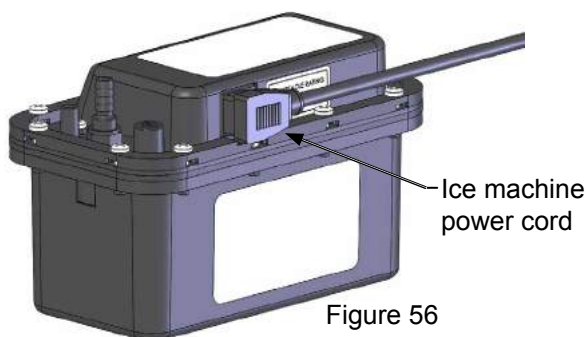

Figure 56
7. Disconnect the ice machine power cord from the drain pump (See Figure 56).